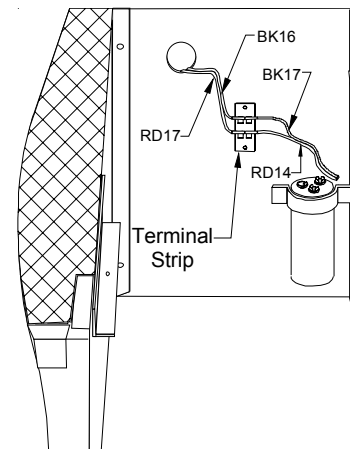

Figure 16
6. Using the two provided #8 screws, attach the terminal strip to the partition panel inside the control panel compartment (Figure 16).
8. Take BK 16 and RD17 fan motor wires from the control board and place on the terminal strip (Figure 16).